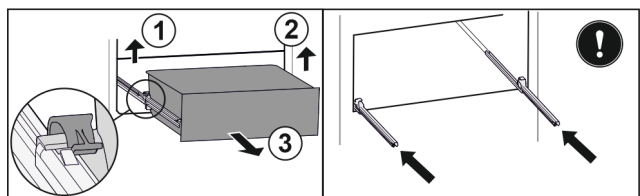

Fig. 76
- ▶ Lift left clamp and simultaneously pull drawer forwards on the left. Fig. 76 (1)
- ▶ Lift right clamp and simultaneously pull drawer forwards on the right. Fig. 76 (2)
- ▶ Remove drawer to the front. Fig. 76 (3)